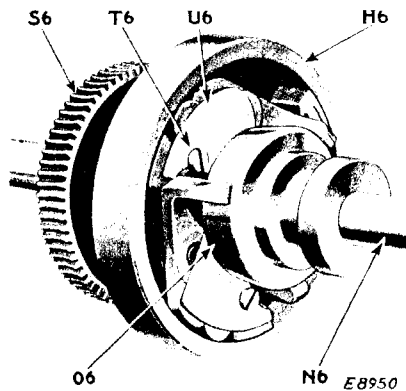

Fig. 21. Rapid Feed Clutch Showing Position of Sleeve when Clutch is Disengaged
slightly loosen the screw (T6, Fig. 21) which holds the retainer plate (U6, Fig. 21) in position and remove the plate. **Do not take out the screw (T6).**
**To Replace the Clutch Roller,** hold the roller with the tweezers and place it into position in the clutch, at the same time holding the spring and plunger in the retainer with the thin piece of sheet metal and after the roller has been replaced, withdraw the piece of sheet metal. Then replace the retainer plate (U6, Fig. 21), using the tweezers furnished for the purpose, and tighten the screw (T6, Fig. 21).